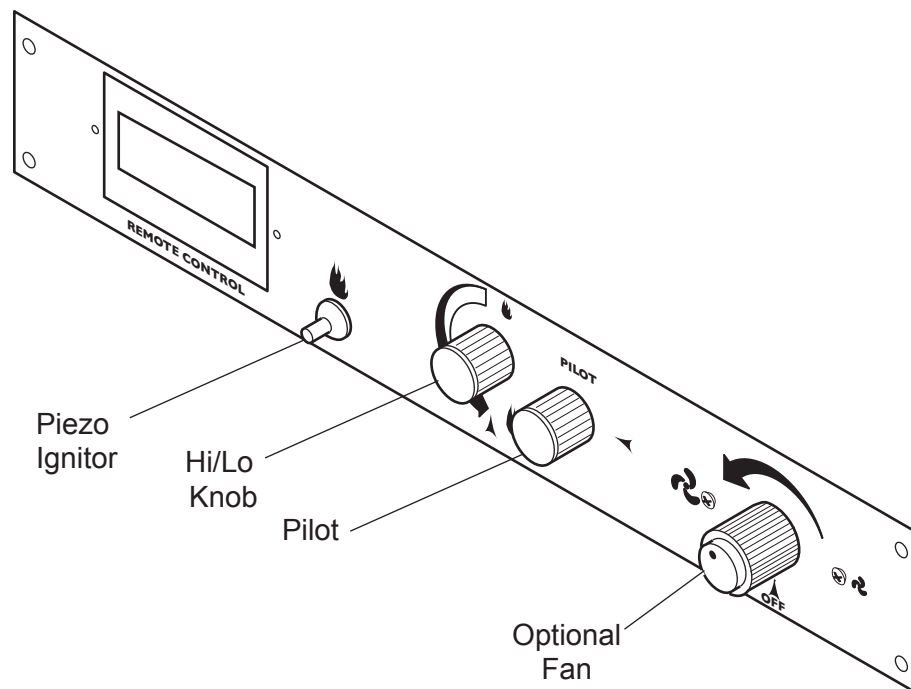

Figure 16 - Control Knob in "ON" Position and ON/OFF Switch in "OFF" Position
2. With control knob in the "ON" position make sure the ON/OFF switch is in the "OFF" position. *See Figure 16.*